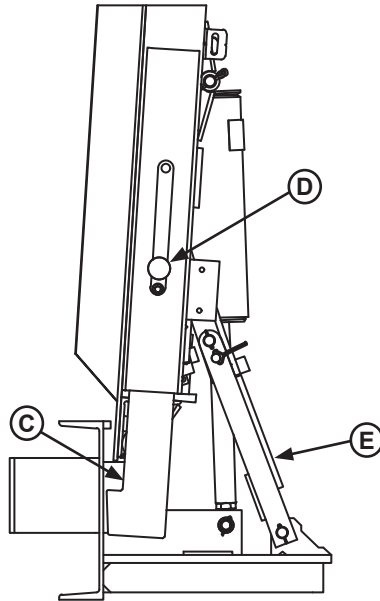

Figure 25
When maintenance is to be performed on the dock leveler, place the maintenance props (C) in their service/down position with hardware (D) fully secured and ensure the storage prop (E) is locked out with the prop pin and clip (F). See Figures 25 and 26. The lip may fold down if the platform has rested on the maintenance props.